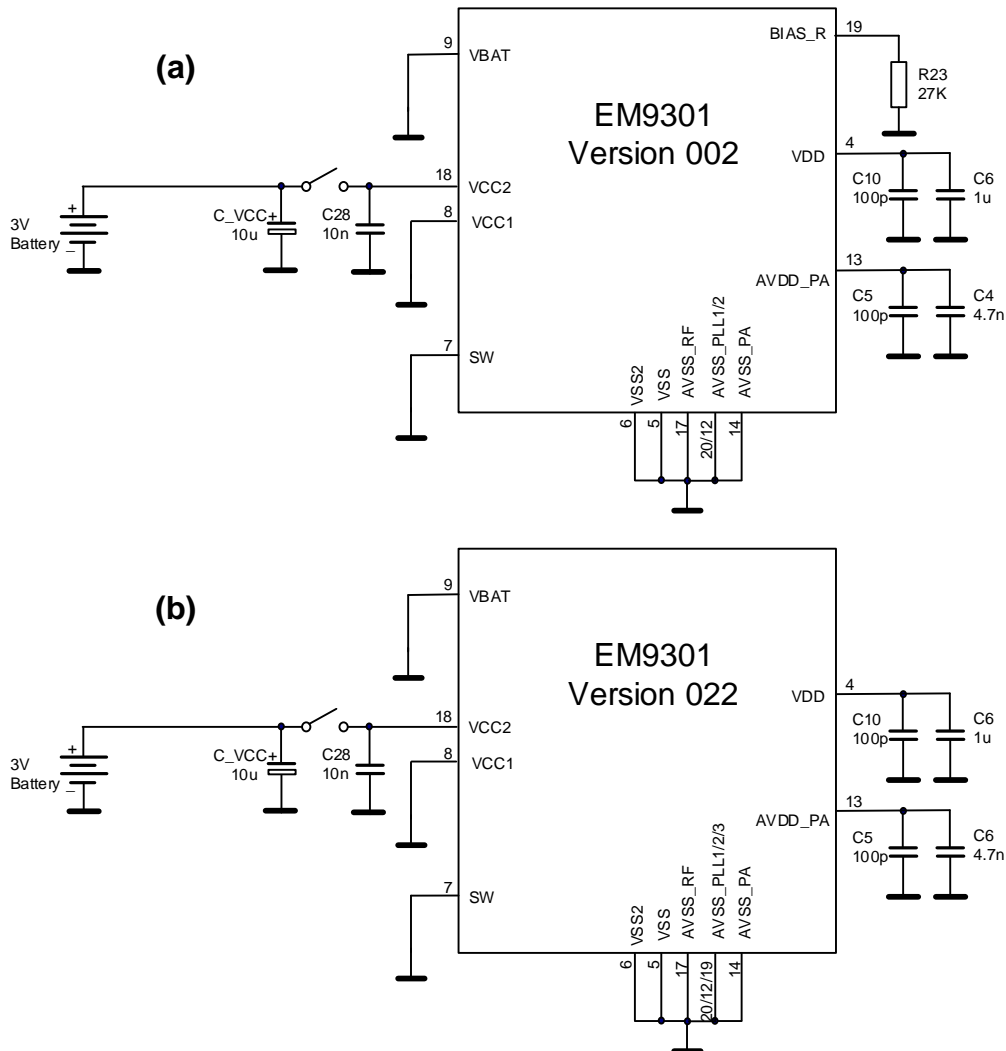

Figure 1.3 EM9301 power configurations: (a) version 002; (b) version 022
This section describes how the power supply shall be connected for the different versions of the EM9301. Figure 1.3 shows configuration schematics for the power lines, Table 1.2 gives a description of the EM9301 supply pins and Table 1.3 summarizes a list of recommended external components. For a proper operation of the chip, all pins with labels VSS or AVSS shall be connected to the common PCB ground plane.
VCC2	EM9301 main power supply. This pin is connected to an external power supply (e.g. a 3V battery) as shown in Figure 1.3(a) and Figure 1.3(b).
- Parameters are measured using the schematics on Figure 1.3(a) or Figure 1.3(b) and with the component list showed on Table 1.3, the supply voltage V_{CC2} is assumed to be 2.5V.